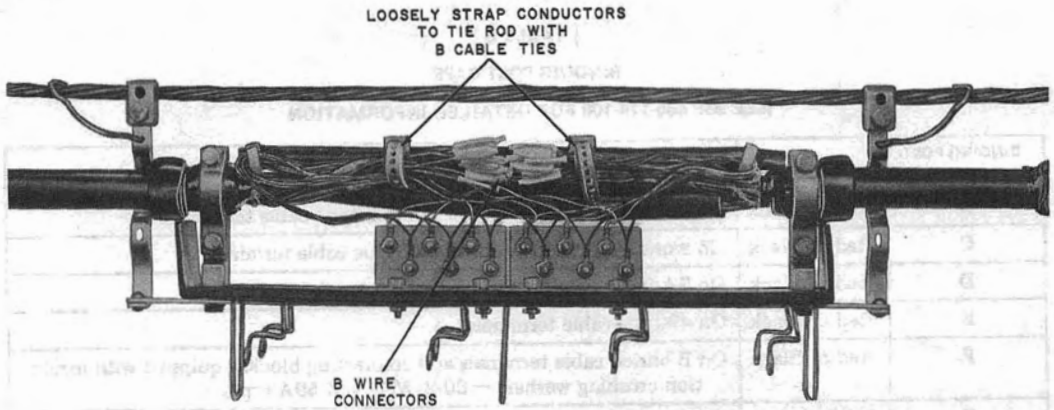

Fig. 26—Completed Installation Using B Wire Connectors
3.15 An alternate method of joining the terminal block leads to the cable conductors is with the use of B wire connectors. However, with this method the cable conductors must be cut, thereby increasing the possibility of open conductors beyond the terminal (Fig. 26).